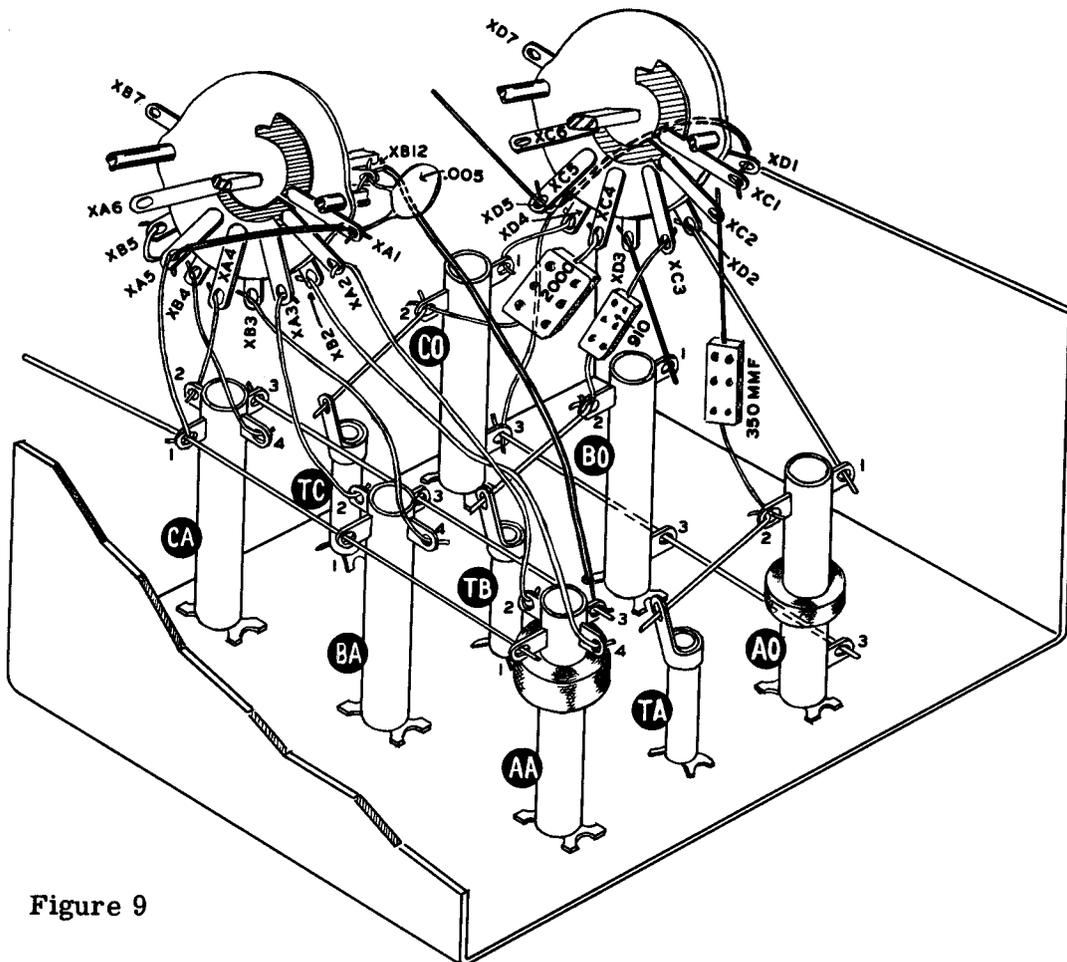

Figure 9
- () Connect a bare wire from TA (S) to AO2 (NS).
- () Connect a bare wire from TB (S) to BO2 (NS).
- () Connect a bare wire from TC (S) to CO2 (NS).
- () Cut one lead of a 350 $\mu\mu\text{f}$ mica capacitor (orange-green-brown) to 5/8". Connect to AO2 (S). Leave the other end free.
- () Cut one lead of a 910 $\mu\mu\text{f}$ mica capacitor (white-brown-brown) to 5/8". Connect to BO2 (S). Leave the other end free.
- () Cut one lead of a 2000 $\mu\mu\text{f}$ mica capacitor (red-black-red) to 5/8". Connect to CO2 (S). Leave the other end free. Use care when connecting the lead to the coil terminal to prevent breakage due to the heavier lead wire used.
- () Mount the bandswitch X as shown. Do not tighten securely as the nut will be removed later when mounting the coil and switch assembly in the receiver. See Figure 9.
NOTE: Contact lugs on the front face of the switch wafer nearest the panel are numbered XA1, XA2 etc. Contact lugs on the rear face of this wafer have XB numbers. Lugs on the rear wafer have XC and XD numbers. See Figure 9 for detailed numbering.